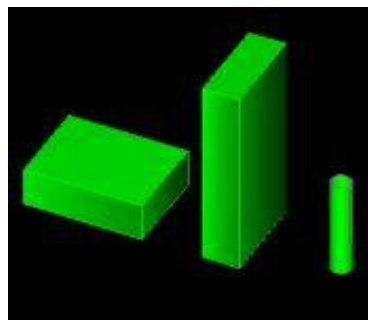

Figure 2
2. Scale the three objects as shown in Figure 2